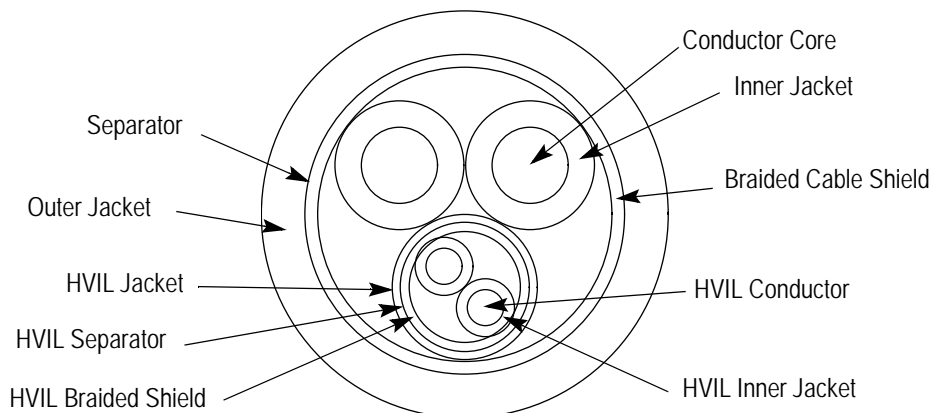

Figure 2
### 2.5. Cable and Subcomponent Specification (Figure 2)
**NOTE** Refer to Figure 2 for the various components of the cable as shown in an end view of the cable.